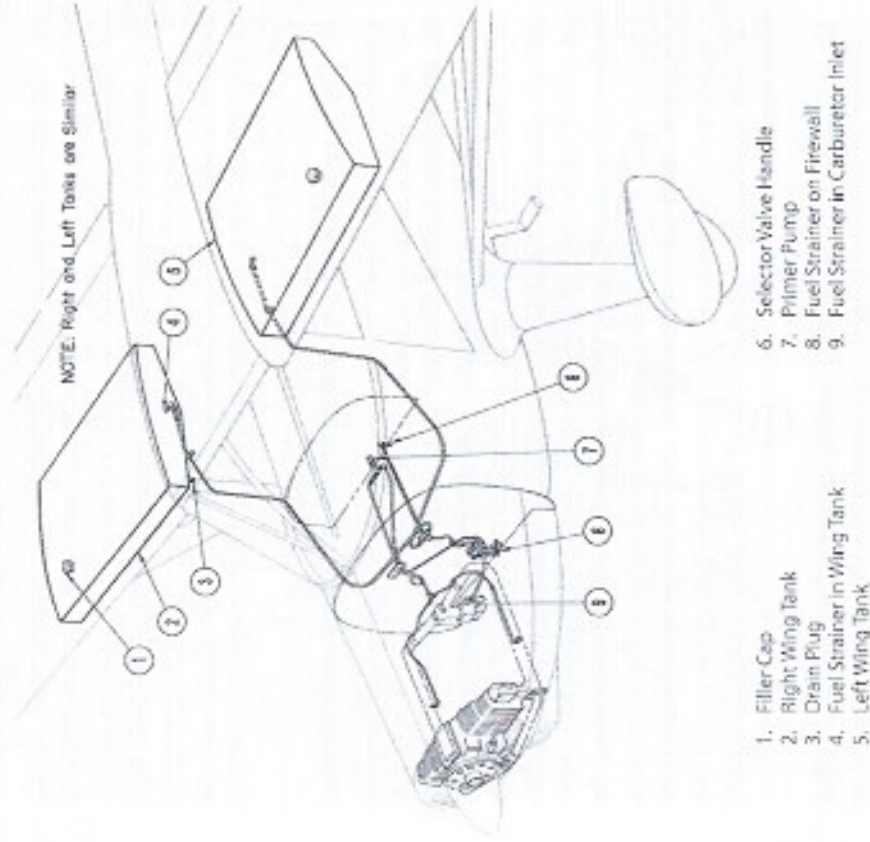

Figure 6 - Fuel System
5. Bleed each fuel tank sump (see Figure 6) to remove any water that may have accumulated.